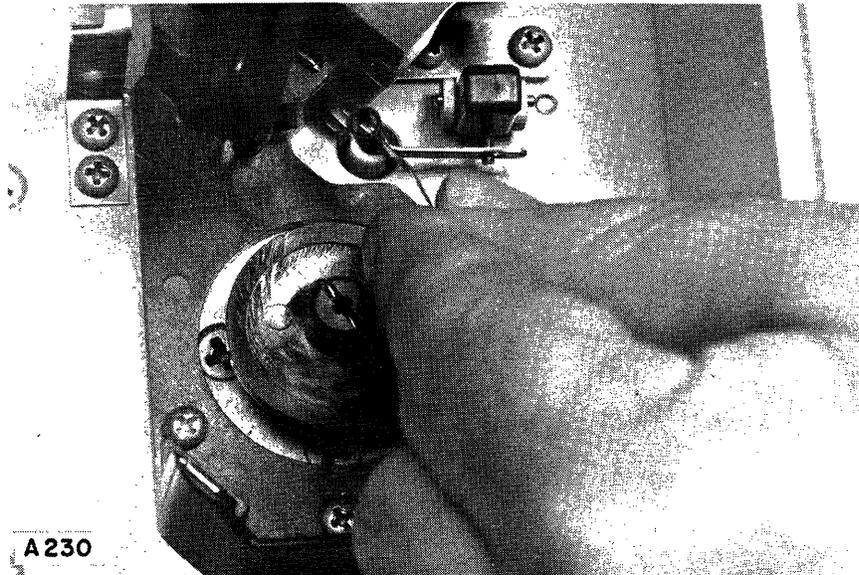

Figure 4-3. Removing the Leader Eyelet
- b. Lift the leader eyelet upward off the pin on the take-up reel, as indicated in figure 4-3. The leader clip will remain in the clip channel because the locking lever is in the unlock position.
- d. Remove the leader eyelet from the pin on the take-up reel. (See figure 4-3.)